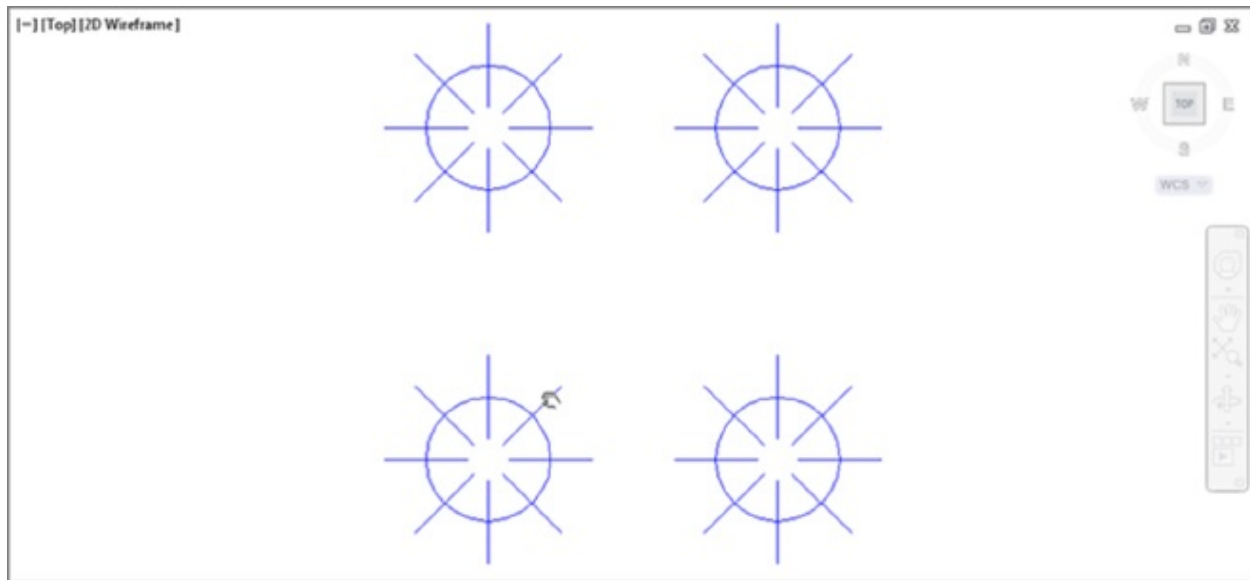

FIGURE 6.8 The panned view of the range top
3. Continue to drag the view until it looks similar to Figure 6.8; then release the mouse button.